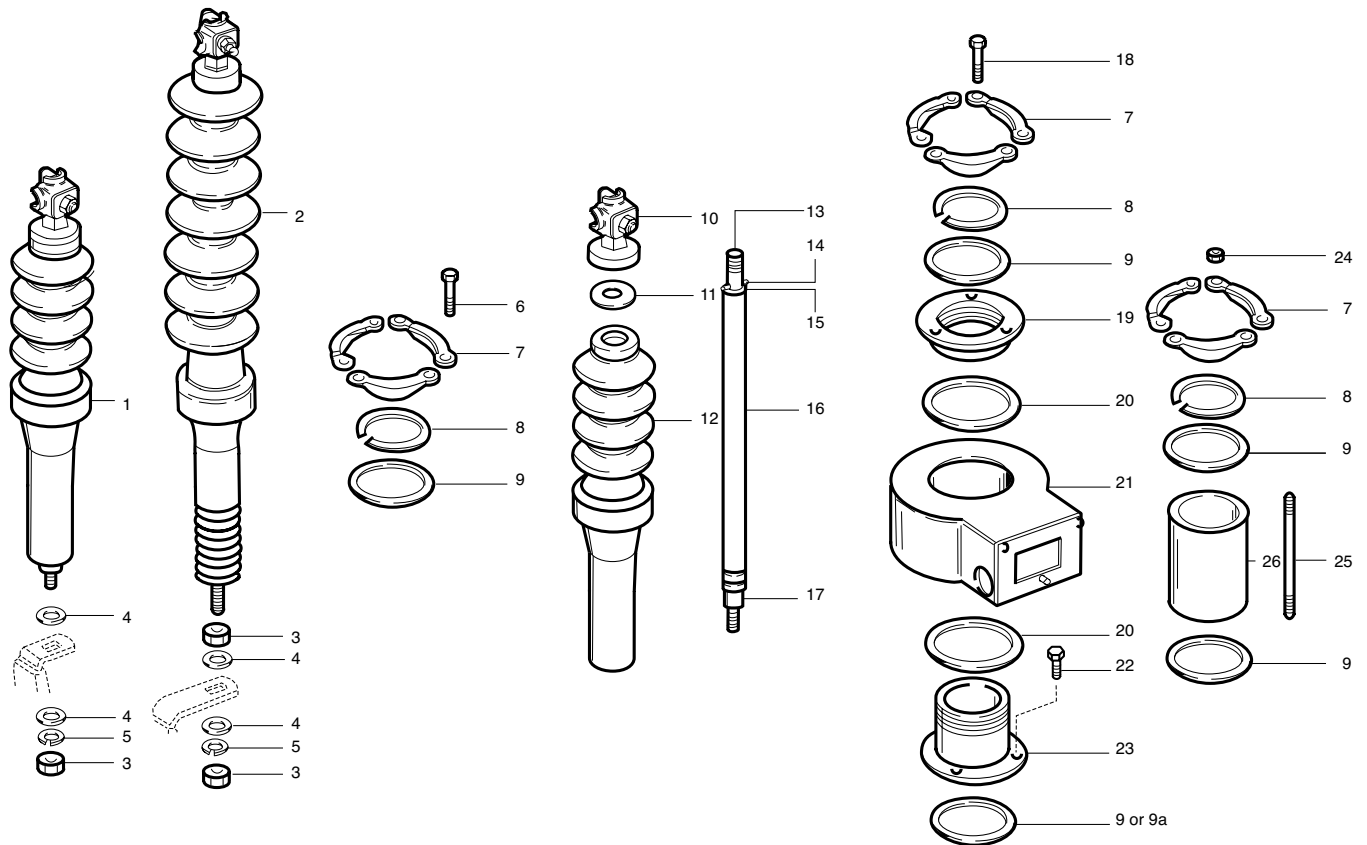

Figure 33. Bushing parts – exploded view
2. Measure the output between pin sockets K and J as shown in Figure 33.